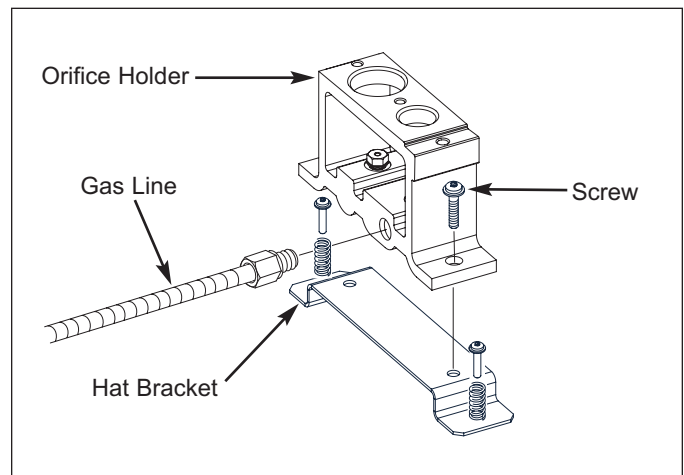

Figure 4-4. Orifice Holder Removal
2. With a 3/8" and a 7/16" open end wrenches, remove the gas supply lines from orifice holder. (See Figure 4-4)